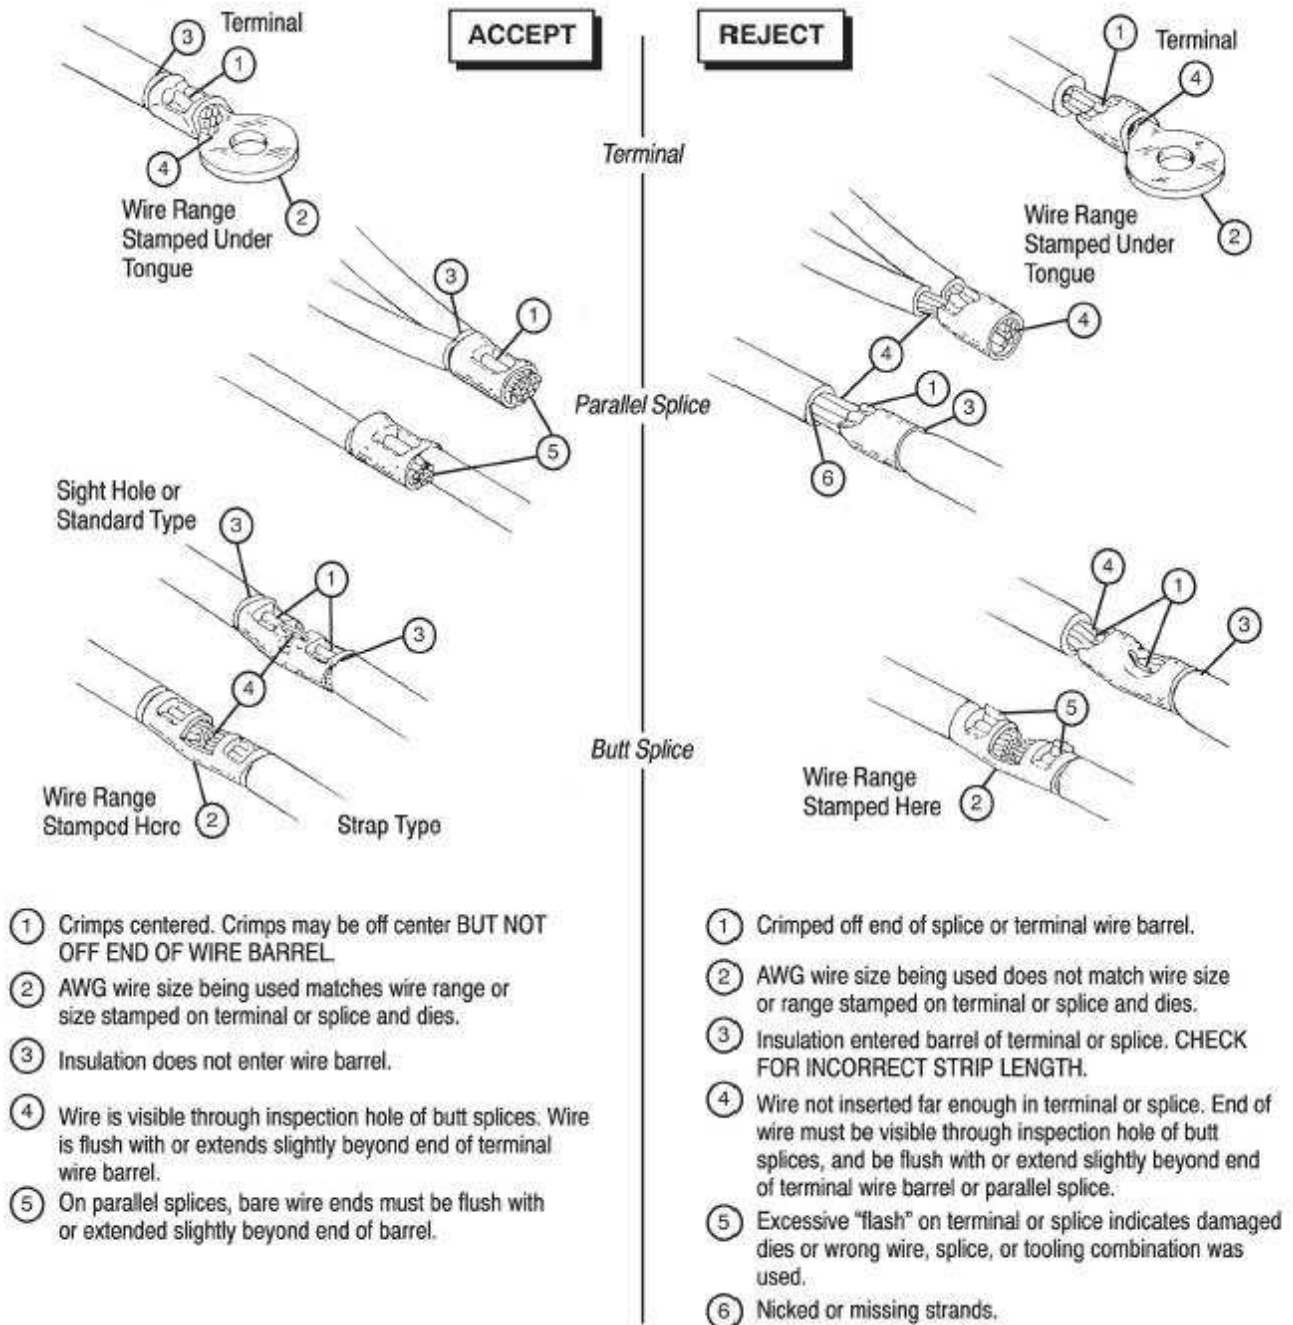

Figure 4
5.1. Crimp Inspection (Figure 4)
Inspect crimped terminals or splices by checking the features described in Figure 4. USE ONLY terminals or splices that meet the conditions shown in the ACCEPT column. Terminals and splices displaying the features shown in the REJECT column can be avoided by careful use of these instructions and by performing the maintenance and inspection procedures described in paragraphs 5.2. and 5.3.